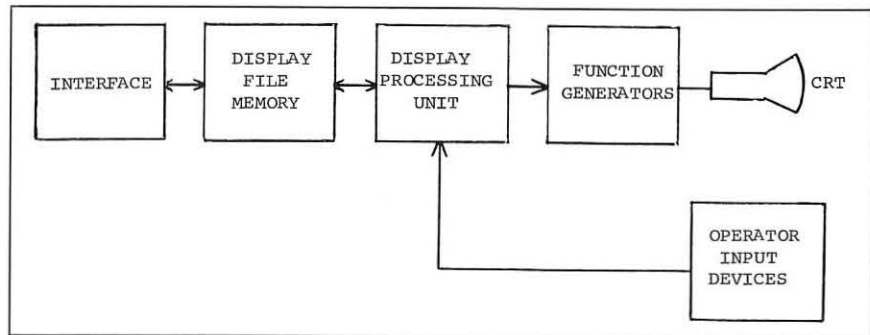

Figure 6. Unlimited Graphics/Buffer
5. *Unlimited Graphics/Buffer* (Figure 6)